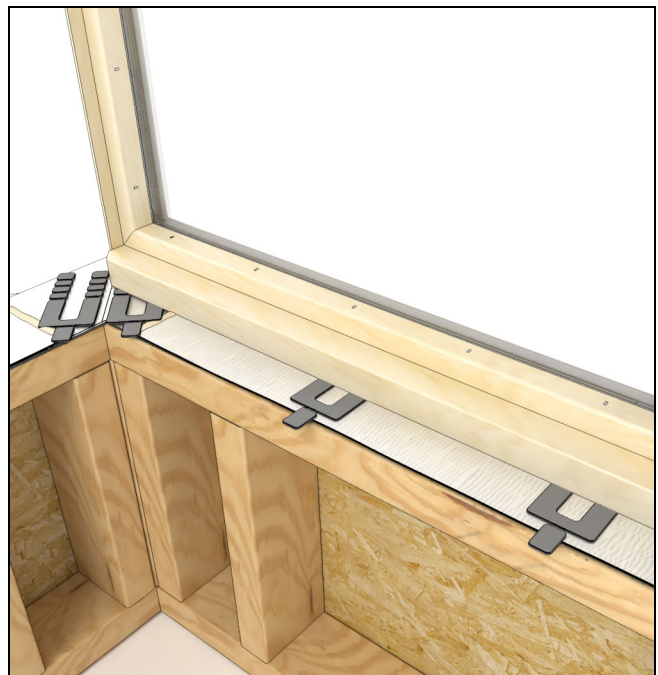

Figure 35
2. Level at the sill and plumb the unit. Adjust shims under the sill to level if necessary. See Figure 35.